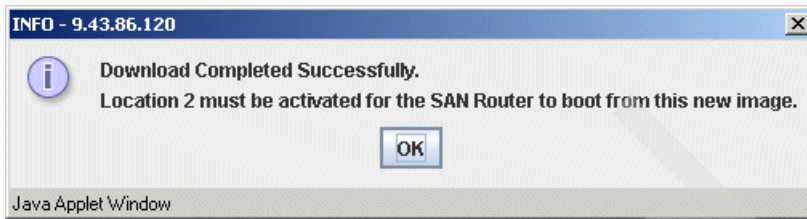

Figure 17-23 Firmware Download Completed Successfully
4. After the download completes, the message in Figure 17-23 appears. Click **OK**.